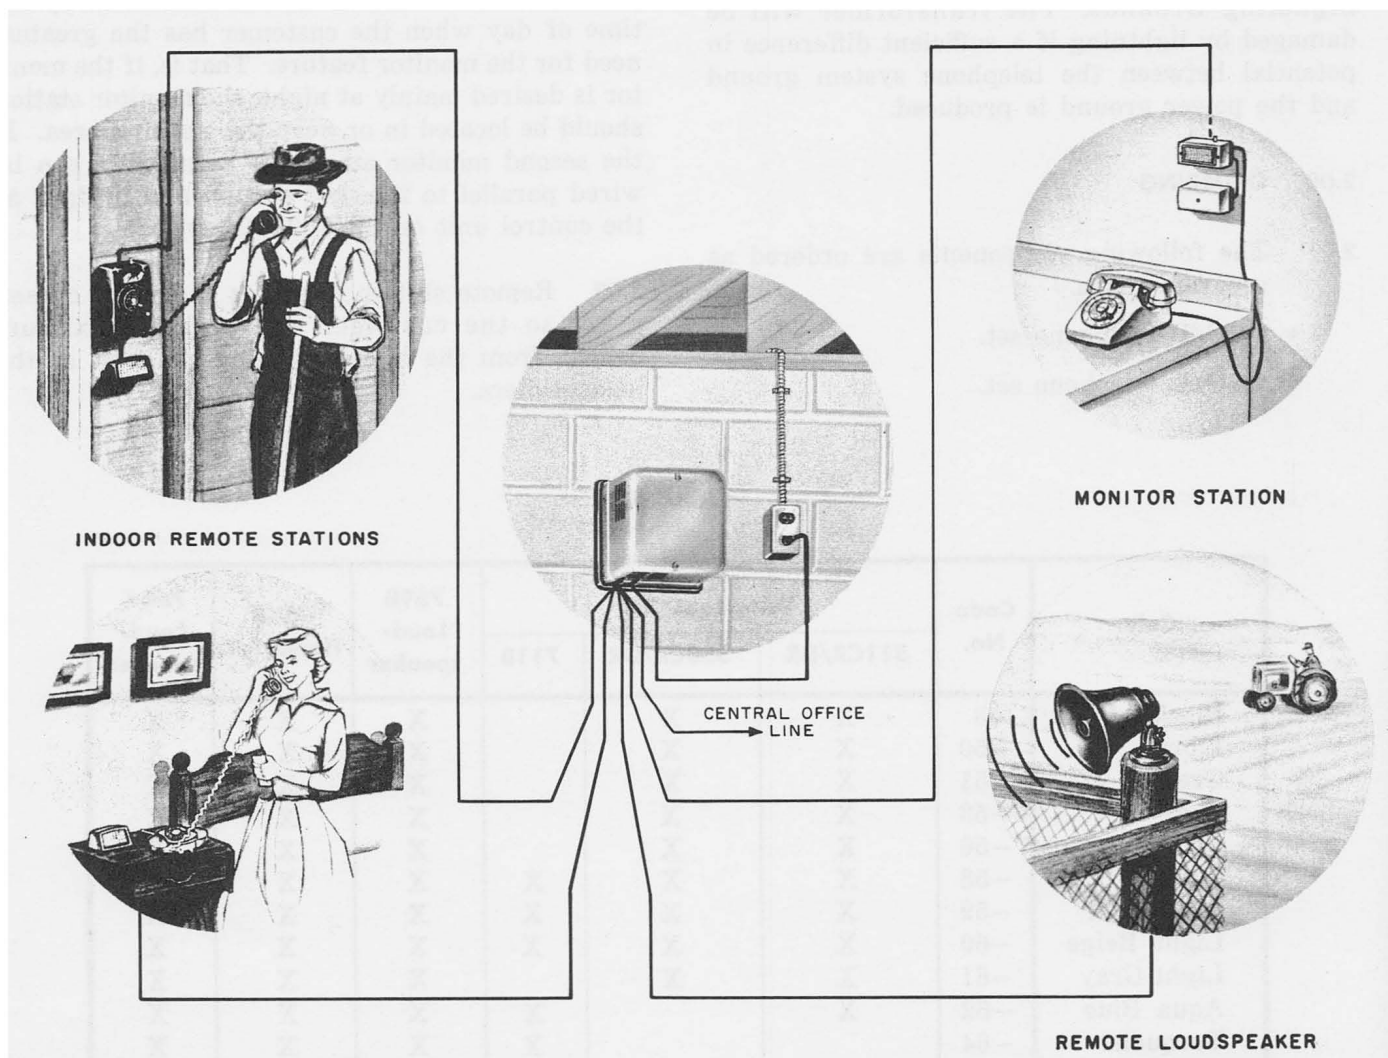

Fig. 1 — 2A Farm Interphone
1.04 A typical arrangement of the 2A farm interphone system is shown in Fig. 1.